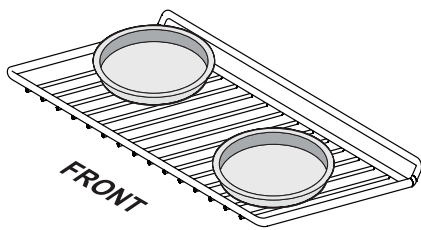

Figure 22: Baking with a single rack
- When baking using one oven rack, position bakeware as shown in Figure 22. Allow at least 2 inches (5 cm) of space between bakeware for proper air circulation.